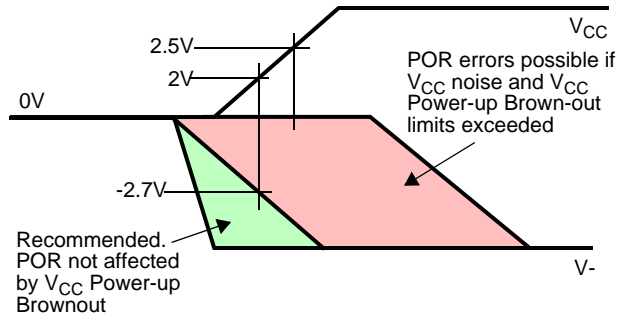

FIGURE 5. $V-/V_{CC}$ POWER-ON TIMING
6. V₋ should be at least -2.7V as V_{CC} reaches 2V. If not, the POR circuit is more susceptible to V_{CC} noise and V_{CC} power-up brown-out conditions. See Figure 5.